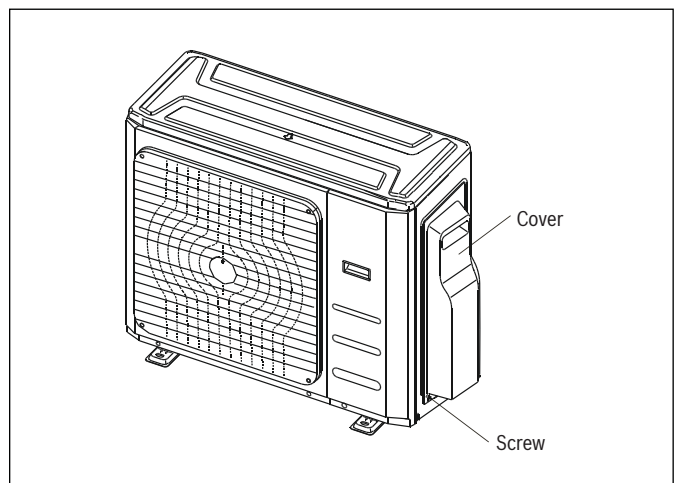

Figure 19
2. Remove the electric cover of the outdoor unit. If there is no cover on the outdoor unit, disassemble the bolts from the maintenance board and remove the protection board. (See Fig. 19)